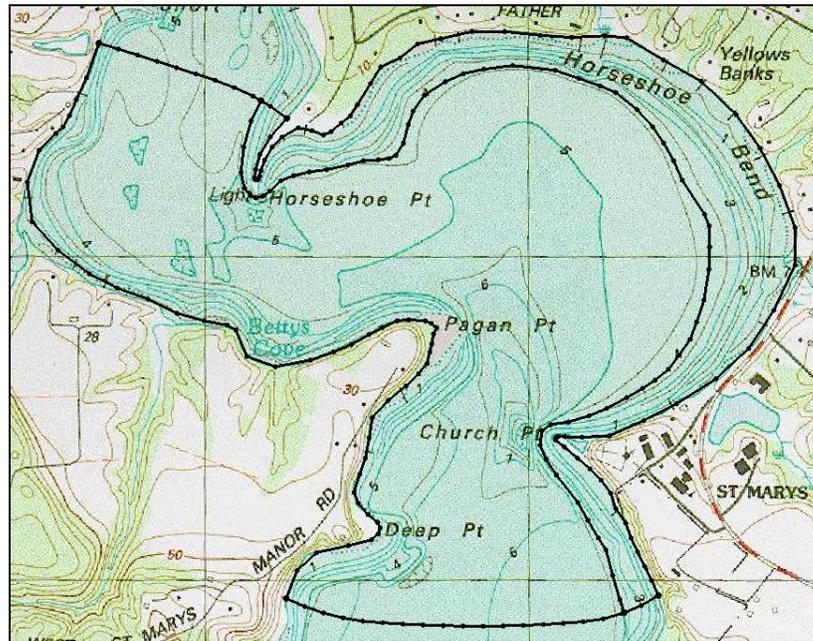

Figure 6 Arc along the left bank
1. Using the **Create Feature Arc**  tool, click out an arc that starts at the intersection of the upstream arc and the 4meter contour and follows the 4 meter contour along the left bank as seen in Figure 6.
2. Terminate the arc by clicking on the downstream arc. (See Figure 6.)